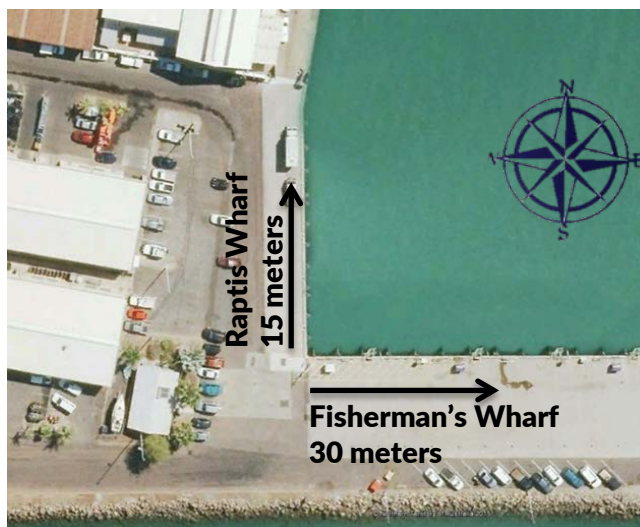

Figure 1
- Within 30 meter from the ULP bowers on Fisherman's Wharf (figure 1);
- Within 15 meter on Raptis Wharf (figure 1).